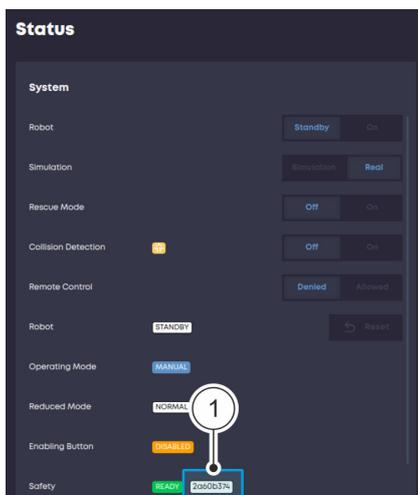

Fig. 11 Safety ID
A safety ID Fig. 11 / ① is assigned to a safety configuration.